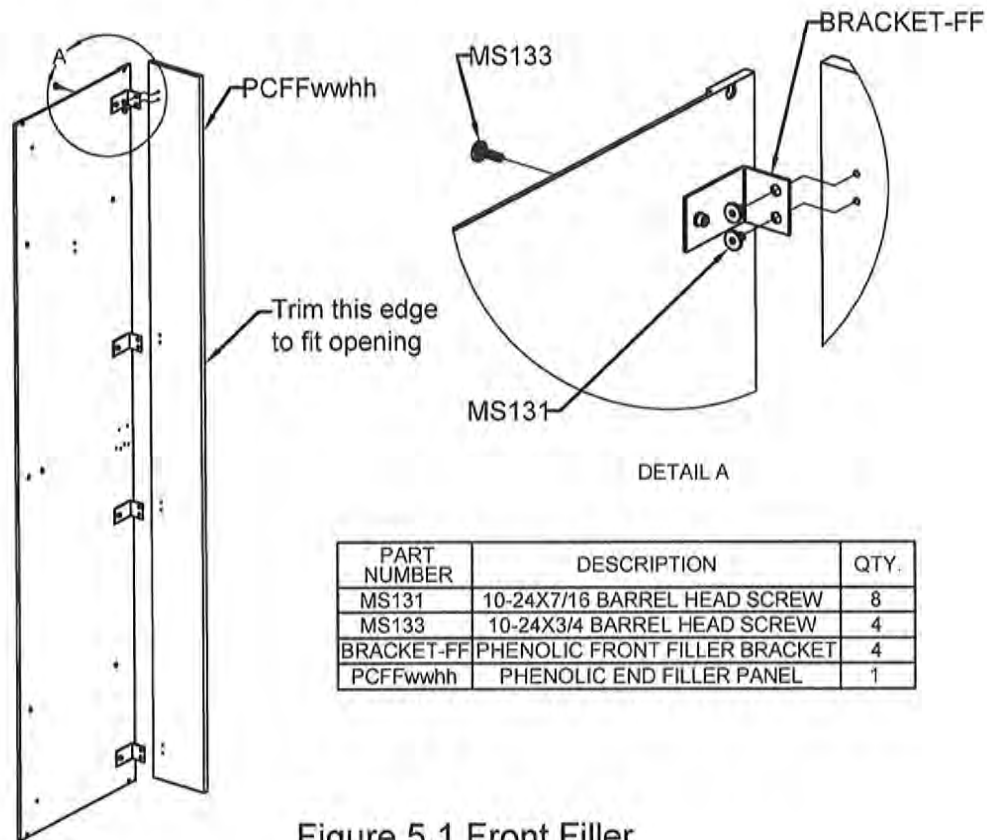

Figure 5.1 Front Filler
- 5.2 Install the front filler brackets on the filler panel using the end filler panel screws provided, see Figure 5.1.
- 6.7 Install the proper filler or corner filler to the first locker using the supplied #10-24 X  $\frac{3}{4}$ " screws. Insert them into the top and bottom connecting holes predrilled in the locker bodies. The holes in the filler bracket will align with the holes in the side panel, see Figure 5.1 & 5.2.